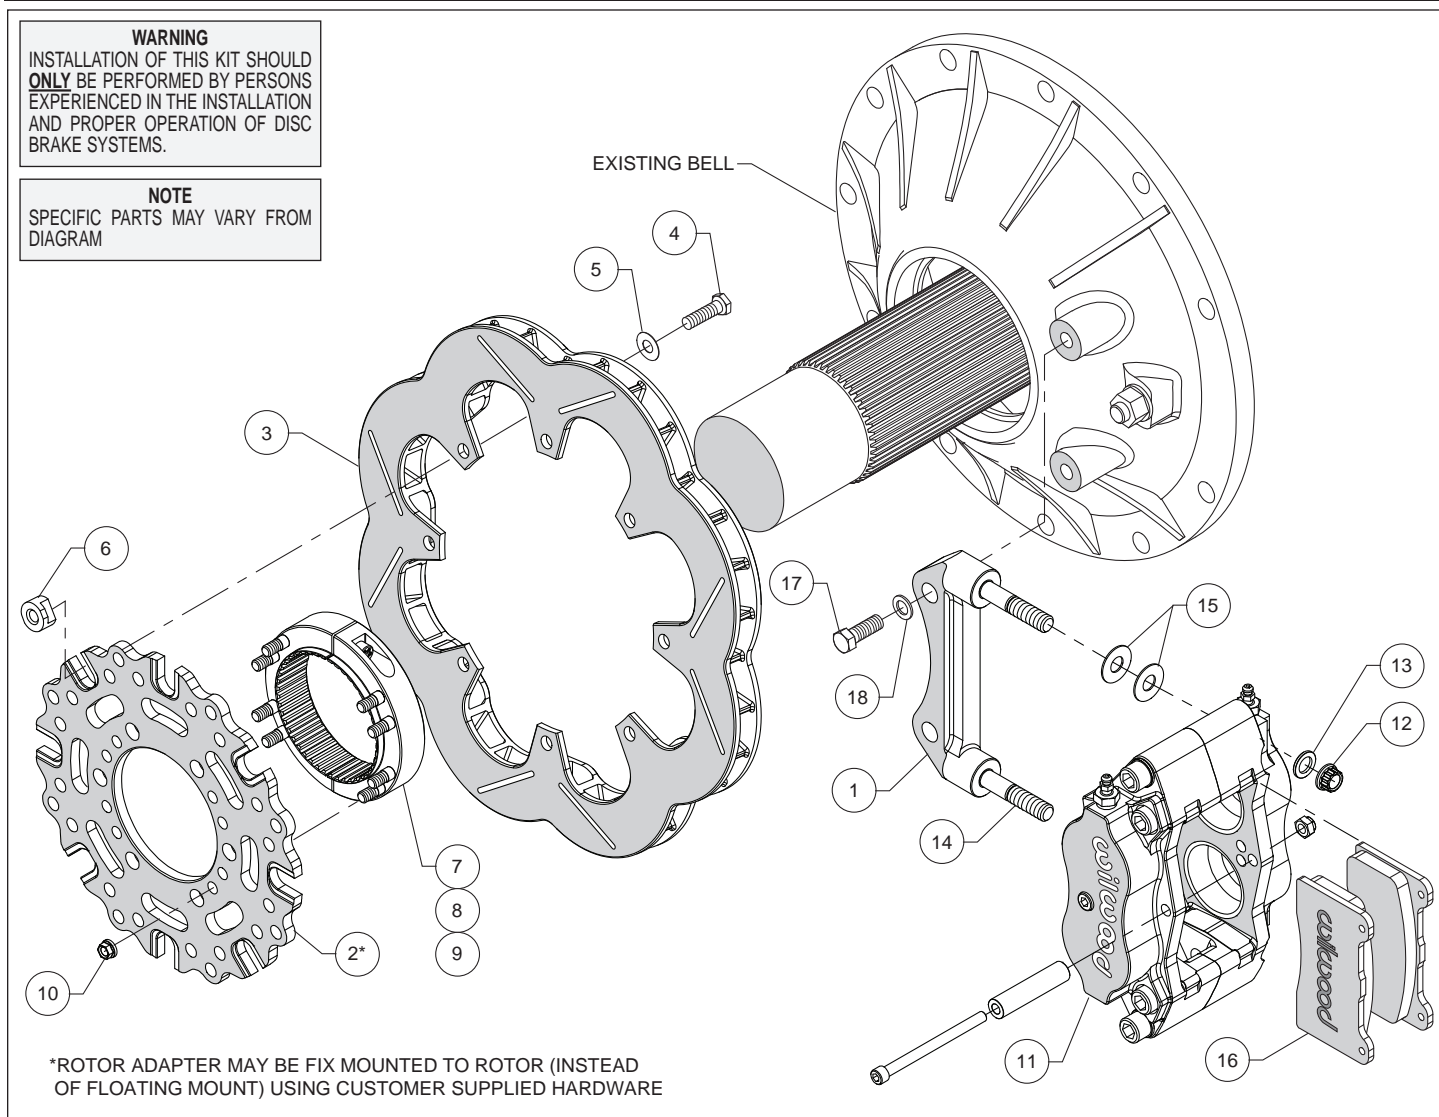

Figure 1. Typical Installation Configuration
- Orient the caliper mount bracket (1) as shown in Figure 1 and install using bolts (17) and washers (18). Temporarily tighten the mounting bolts. **NOTE: The bracket must fit squarely against the mount bosses on the bell.** Inspect for interference from casting irregularities, machining ridges, burrs, etc. Remove the bracket mounting bolts one at a time, apply red *Loctite*® 271 to the threads, and torque to 60 ft-lb.
- Orient the rotor adapter (2) and the rotor (3), as shown in Figure 1, and attach using bolts (4), washers (5), and t-nuts (6), Figure 1. Apply red *Loctite*® 271 to the bolt threads before installing. Finger tighten. After all t-nuts have been installed, torque bolts in an alternating sequence to 220 **in-lbs**. Please refer to Wilwood's data sheet DS-669 (available at www.wilwood.com/Pdf/DataSheets/ds669.pdf) for complete t-nut bolt kit installation instructions. **NOTE: Rotor adapter may be fix mounted to rotor (instead of floating mount) using customer supplied hardware.**
- Orient the axle clamp assembly (7, 8 and 9, pre-assembled) as shown in Figure 1 and install onto the rotor adapter (2) using nuts (10). Tighten nuts part way while still allowing clamp-to-rotor movement. The nuts will be final tightened later, after aligning the rotor. **NOTE:** The axle clamp should be positioned inside of the rotor as shown in Figure 1, not offset, or outside of the rotor adapter.
- Lubricate the caliper mounting studs (14) with lightweight oil. Initially place two .035" thick shims (15) on each stud as shown in Figure 1. Mount the caliper (11) onto the bracket (1) using lock nuts (12) and washers (13), Figure 1. Temporarily tighten the lock nuts and view the rotor through the top opening of the caliper. The rotor should be centered in the caliper. If not, slide the rotor/adapter assembly on the axle until the rotor is centered in the caliper. Tighten the clamp bolts (9) first, locking the clamp to the axle. Torque nuts (10) to 140 in-lbs.
- Remove the caliper center bridge pad retainer bolt, nut, and tube from the caliper. Insert the brake pads (16) into the caliper, with the friction material facing the rotor. Check that the top of the brake pad is flush with the outside diameter of the rotor. If not, adjust by adding or subtracting shims (15) between the caliper and the bracket. After the caliper pad height is set, torque the caliper lock nuts (12) to 30 ft-lb. Secure the brake pads in place with the center bridge pad retainer tube, bolt, and locknut. The locknut should be snug without play in the bolt or tube. Be cautious not to over tighten.